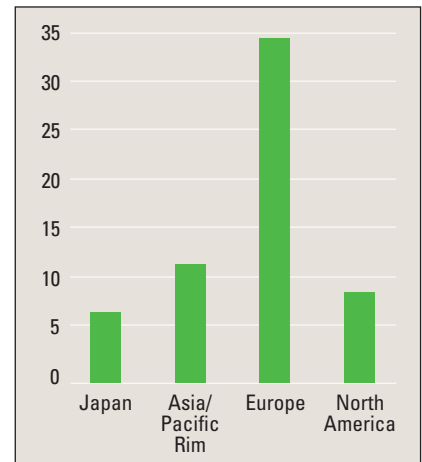

FIGURE 3. Number of shops running LFH globally; most are located in Europe.
A. As of June 2005, approximately 63 shops were running LFH globally (**FIGURE 3**).